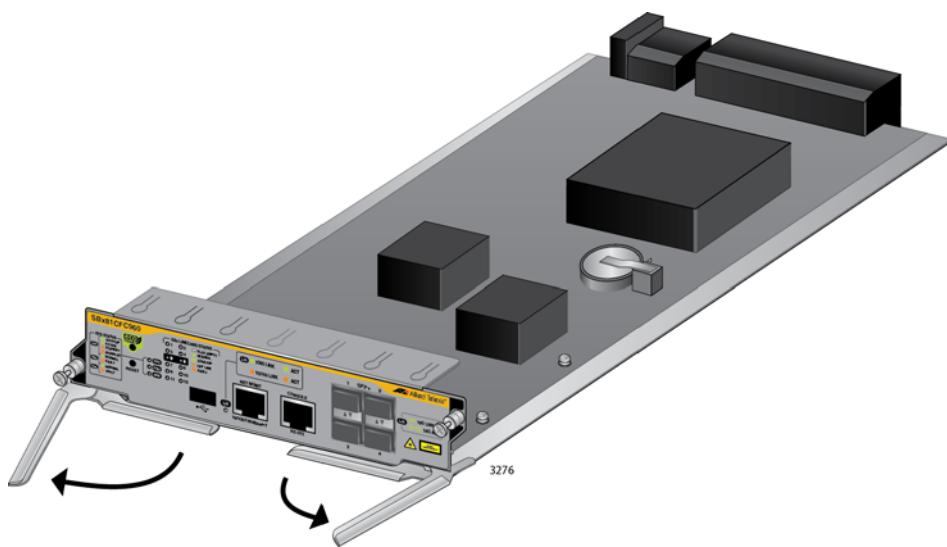

Figure 73. Opening the Locking Handles on the AT-SBx81CFC960 Controller Fabric Card
5. Move the locking handles on the front panel to the open position, as shown in Figure 73.